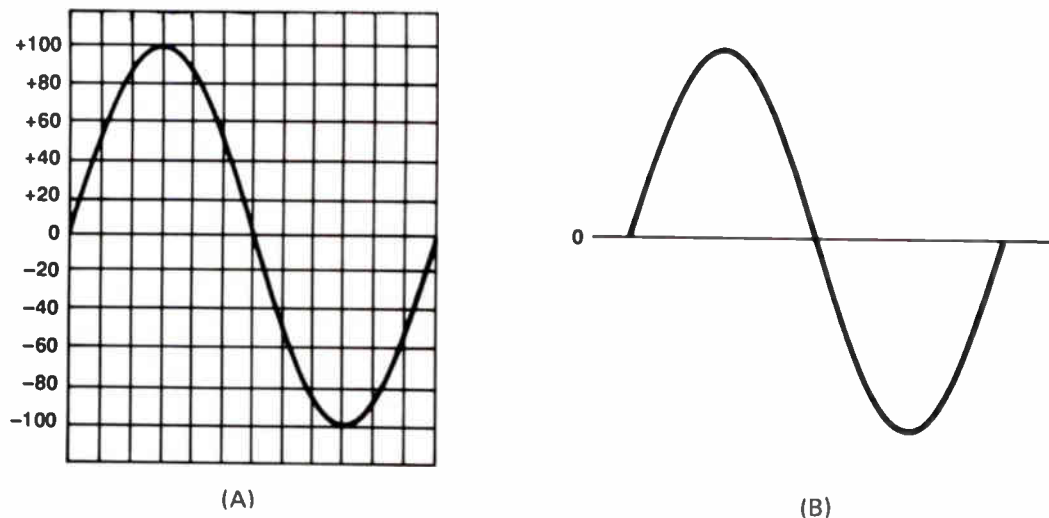

Figure 21. The appearance of the output voltage produced by the generator as it travels through one complete turn.
As the coil rotates through the remaining half-turn, the voltage polarity reverses. It will be negative with respect to the ground terminal because the coil cuts through the magnetic lines of force from the opposite direction. This produces a curve on the graph like Fig.21(A). Removing the horizontal and vertical reference lines, we can get a better look at the shape of the output voltage, as in Fig.21(B). This is called a *waveform*.
This is essentially the same wave shape as in Fig.21. The difference is that the negative half-cycle below the line is made positive by the automatic reversing of the connections to the coil achieved by the commutator and brushes.
Look back at the 1-cycle ac waveform shown in Fig.21. At the start of the cycle, the voltage is zero. After the coil rotates one-quarter of a turn, the voltage reaches its maximum value. At the halfway point, its back to zero again. At three-quarters of a turn, the voltage is at its maximum negative value, and at the end of the cycle the voltage is back to zero. The voltage reaches a maximum value twice in each cycle.
- 22 The waveform shown in Fig.21(B) represents one cycle. In a cycle of an alternating current, the voltage between the two terminals of the generator starts at zero, then builds up to a maximum value with one polarity, then drops back to zero; it then builds up to a maximum value with the other polarity, and then drops back to zero. During the next cycle it will simply repeat the first cycle.